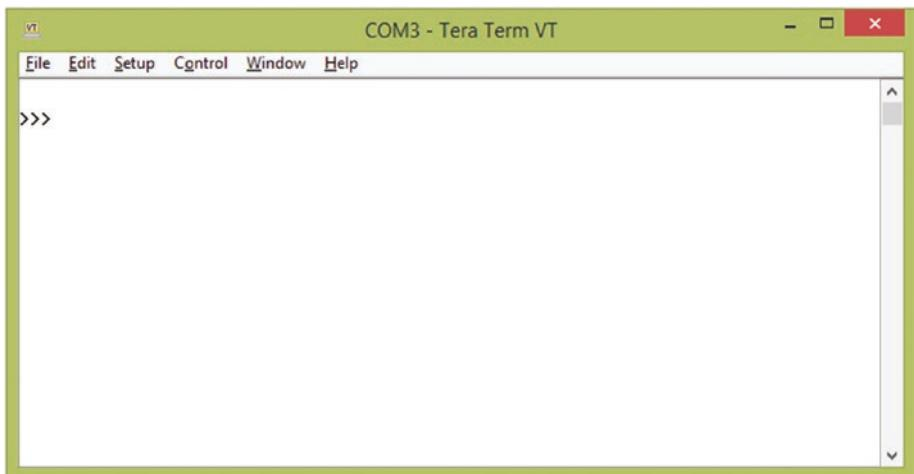

Figure A-7. Getting to the prompt
1. Within the Tera Term window, press the Enter key to enter command mode. You should see a prompt with three greater than signs (see Figure A-7).